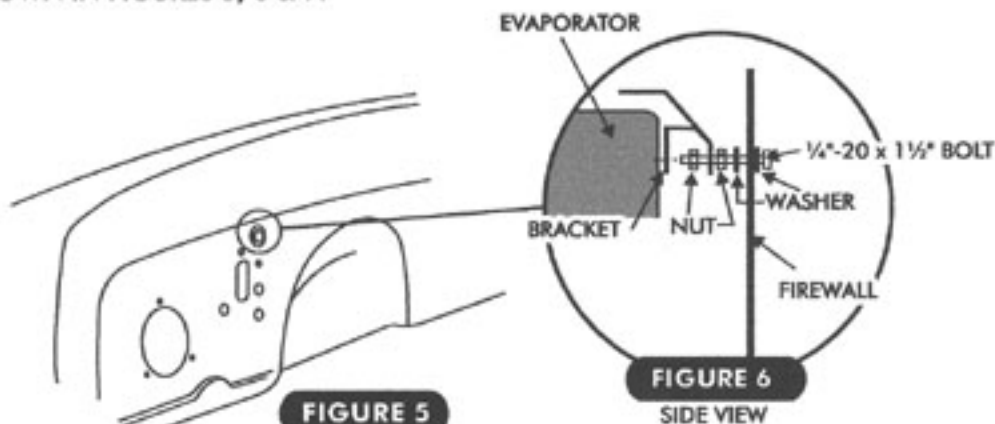

FIGURE 5
- 4. INSTALL REAR EVAPORATOR BRACKET TO FIREWALL, BY USING (1) 1/4"-20 x 1-1/2" BOLT, (2) NUTS WITH STAR WASHERS, AND (2) WASHERS IN O.E.M. HOLE AT CENTER OF FIREWALL, AND TIGHTEN AS SHOWN IN FIGURES 5, 6 & 9.